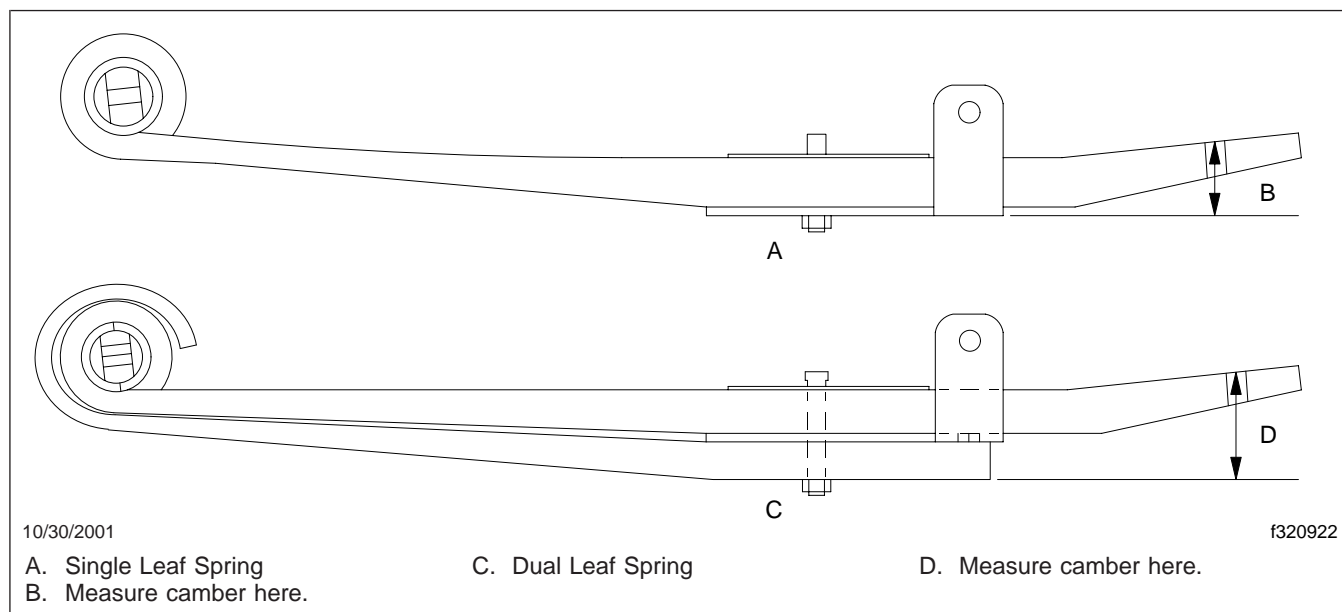

Fig. 12, AirLiner Leaf Spring Rear End Camber Measurements
3. With the leaf springs installed on the vehicle, using a straight edge, measure the rear-end camber at the air-spring mounting hole on the leaf spring. See Fig. 12. Repeat each measurement three times to ensure accuracy.